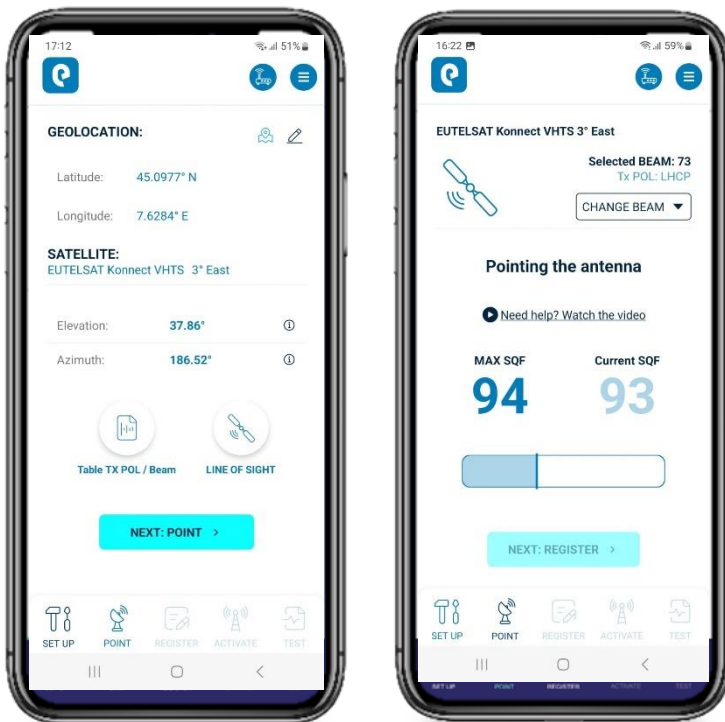

Figure 32, 33
To use the SAT POINTER, activate the Wi-Fi on the device settings and choose the Wi-Fi network of the WR3200 Terminal using the credentials reported on back panel (fig. 12). A small router symbol on the top right of the App will become green to indicate the connection with the Terminal is On (fig. 32)
Click on the App home page SAT POINTER, note the antenna Elevation Value, then click 'NEXT: POINT' to enter the pointing mode to visualize the SQF (Signal Quality Factor) in real time. Concurrently the App will automatically (1) load the Terminal Configuration file *sbc.bin* stored in the App, as shown by the confirmation message 'The Terminal SBC file is up to date', and will automatically (2) program the Terminal using the Latitude/Longitude data from the GPS (fig. 32).
Verify 'Selected BEAM' value (fig. 32) corresponds to the Beam reported in the Work Order, in case you need to change it click on 'CHANGE BEAM'. You can now point the antenna following the same process described in PART 6: POINTING THE ANTENNA, starting from STEP 24. The App will display the Current and MAX signals level SQF in real time to allow an optimal pointing process. Once you have finished pointing, click on 'NEXT: REGISTER' (fig. 32).